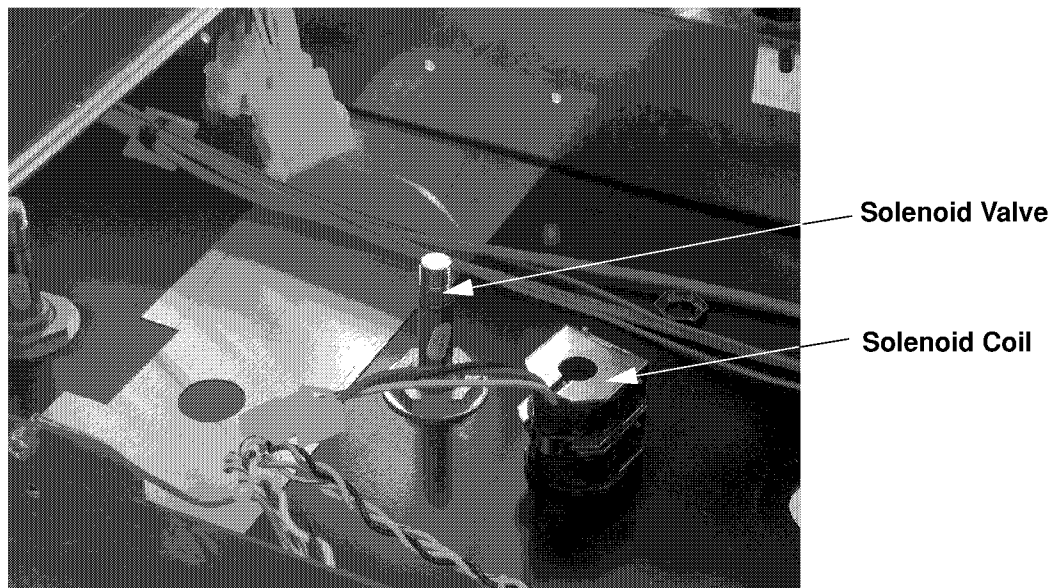

Figure 2-3 Remove the Solenoid Coils
18. Disconnect and remove all six of the solenoid coils. See Figure 2-3.